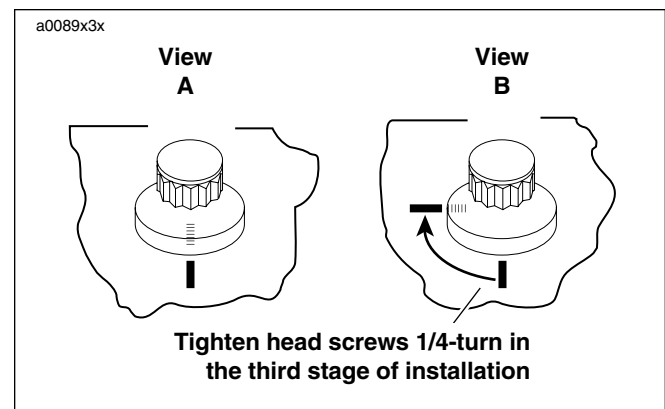

Figure 3-83. Tightening Head Screws
- c. See Figure 3-83. Mark cylinder head and head screw shoulder with a line as shown (View A).